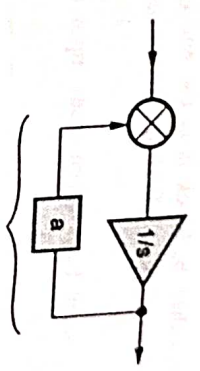

Fig. Q.9.1
- Its simulation is as shown in the Fig. Q.9.1.